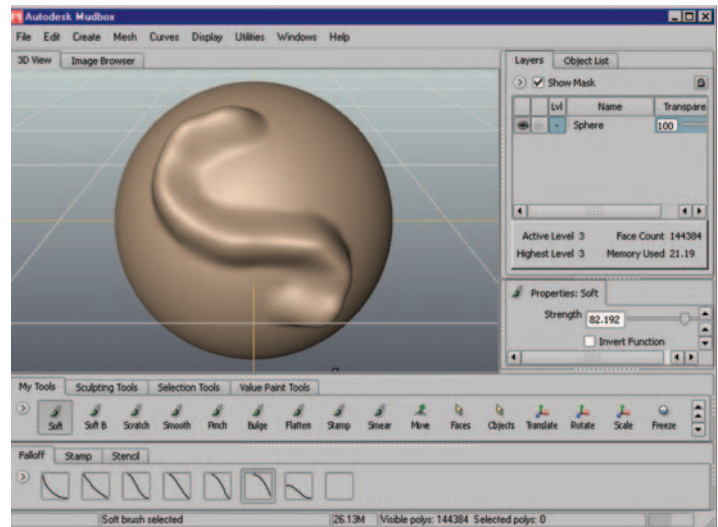

Figure 11.31 Stroke is smoother after toggling the Smooth brush by using Shift and the Soft brush.
6. With the Soft brush still active, hold down the Shift key on the keyboard, and use the brush to smooth the strokes created with the Soft brush. Shift toggles the Smooth brush in Mudbox. This should be easy to remember, the same functionality and key combination are used in ZBrush. Figure 11.31 shows the stroke after using Shift to toggle the Smooth brush and smoothing the strokes.